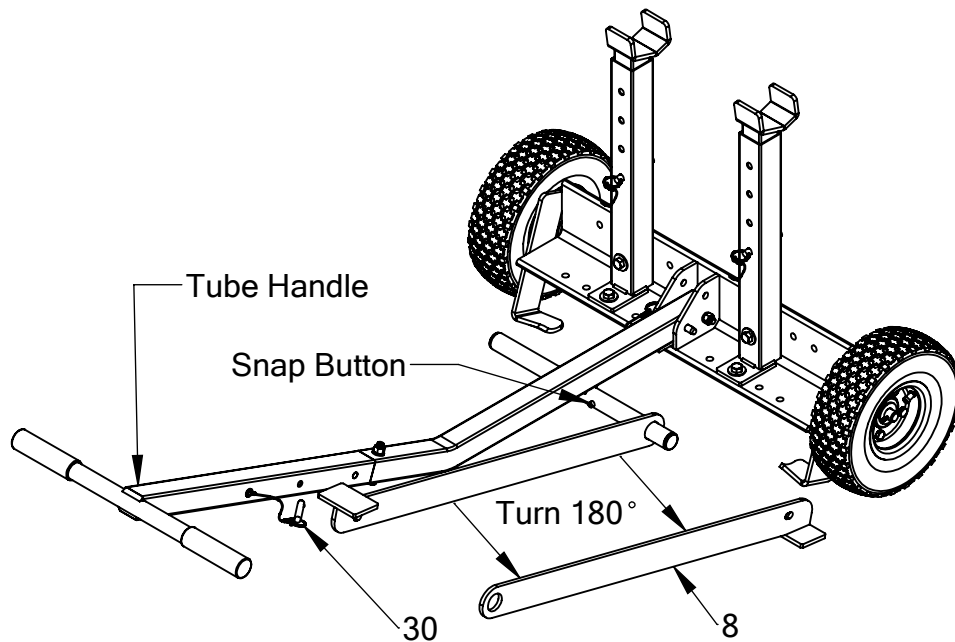

Figure 1
- Turn stabilizer bar 180 degrees as shown at bottom of Figure 1.